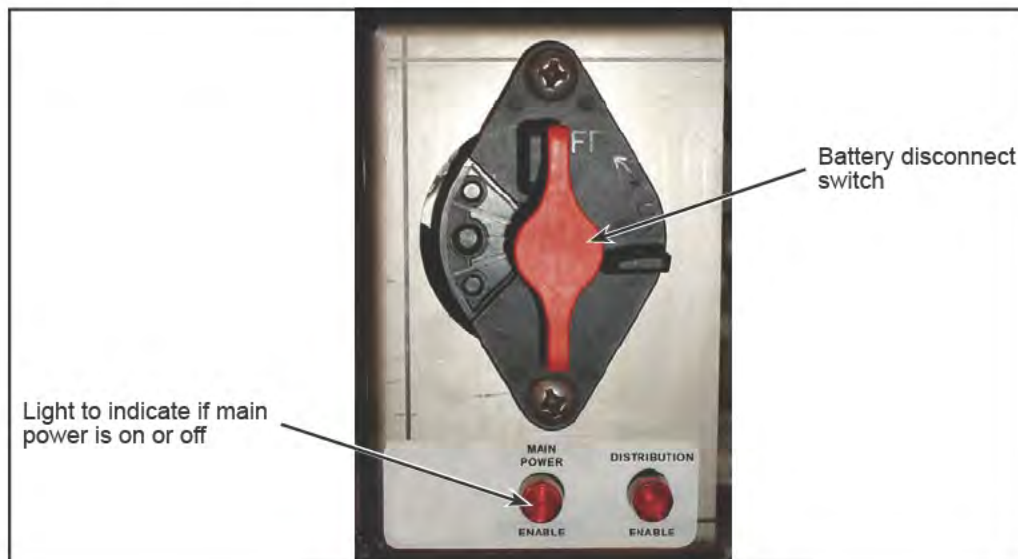

Figure 2 - Typical Battery Disconnect Switch
- 1.2. Set the battery disconnect switch in the battery compartment to the OFF position (see Figure 2).